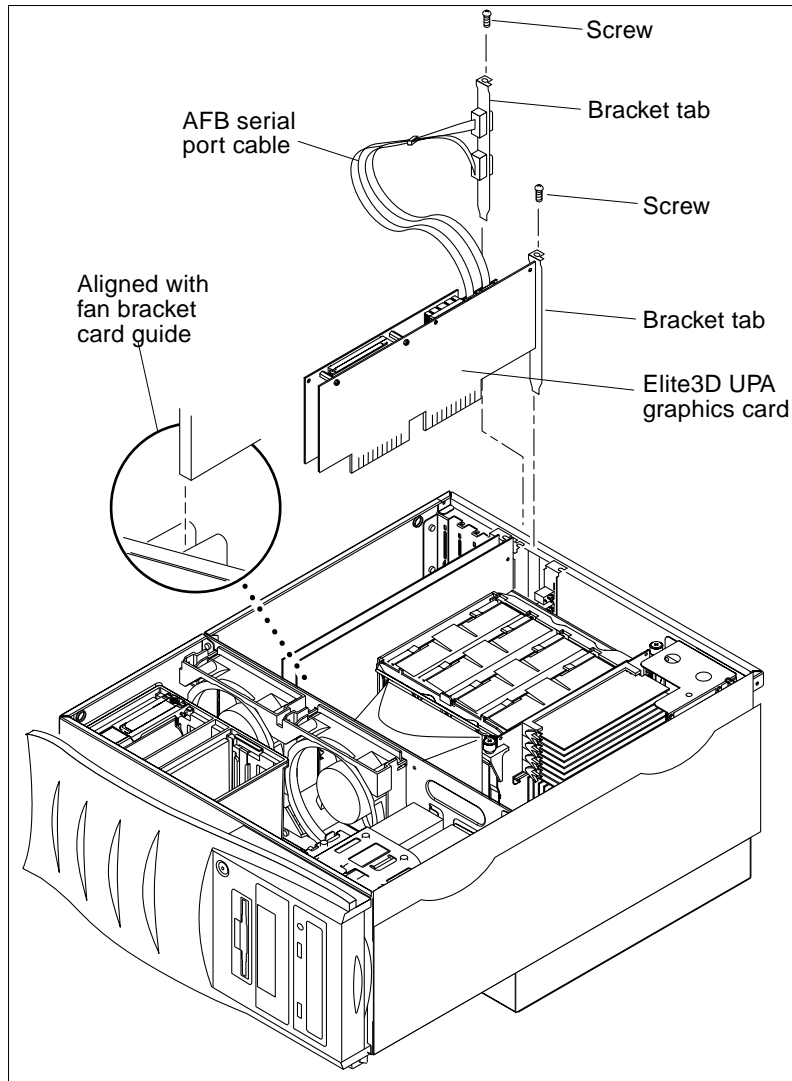

FIGURE 9-6 Removing and Replacing the Elite3D UPA Graphics Card
4. **Remove the AFB serial port cable as follows (FIGURE 9-6):**
Note – FIGURE 9-6 illustrates the Elite3D graphics card detached from the chassis to provide clarity.
- a. **Insert the cable assembly bracket tab into an available chassis PCI slot (FIGURE 9-6).**
Note – FIGURE 9-6 illustrates the Elite3D graphics card detached from chassis to provide clarity.